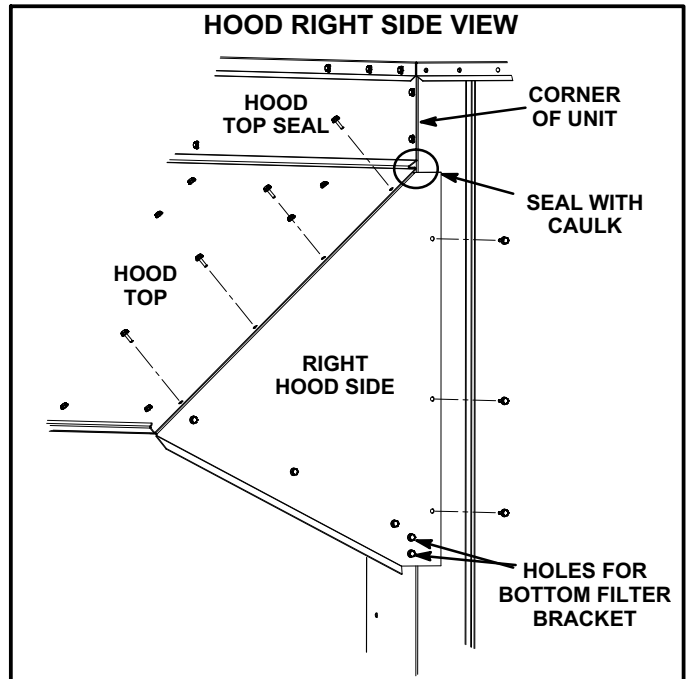

FIGURE 8
- 13- Secure the right hood side to the hood top. See figure 8. Do NOT secure the right hood side to unit.
- 16- Secure the right hood side to the unit as shown in figure 8.